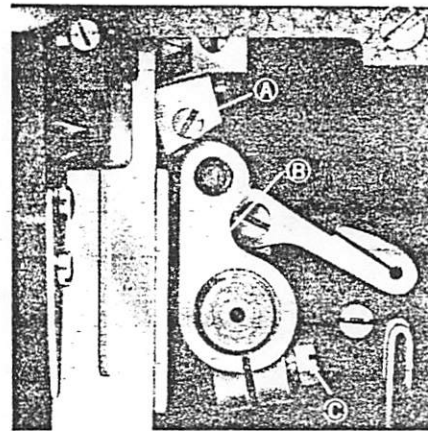

Fig. 31
The clearance can be adjusted by loosening the underlooper adjusting lever screw (B) (Fig. 31) and moving the under looper to the left or right. Be sure to re-tighten the underlooper adjusting lever screw (B) (Fig. 31) securely after making adjustments.
There must be a clearance of about 0.1mm between the tip of the underlooper and the needles when it passes their depression. At this instant, however, it is desirable that the clearance between the right needle and underlooper be slightly smaller, and the clearance between the left needle and underlooper be slightly larger, than the value mentioned above. These adjustments can be accomplished by loosening the needle bar connecting stud and turning the needle clamp as required. Turn the pulley further and see that the tip of the underlooper comes close enough to the needles' shank when it passes the needles on its return sewing from its right extremity. Clearance between the needles and underlooper can be adjusted by loosening the underlooper set screw (A) (Fig. 31) and tilting the underlooper forward or back as required.